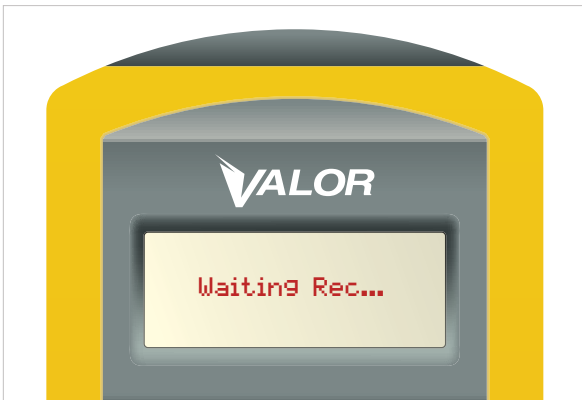

Figure 22
3. The screen will display “Waiting Rec,” (Figure 22) Restart the Valor CANbus (power OFF and back ON).